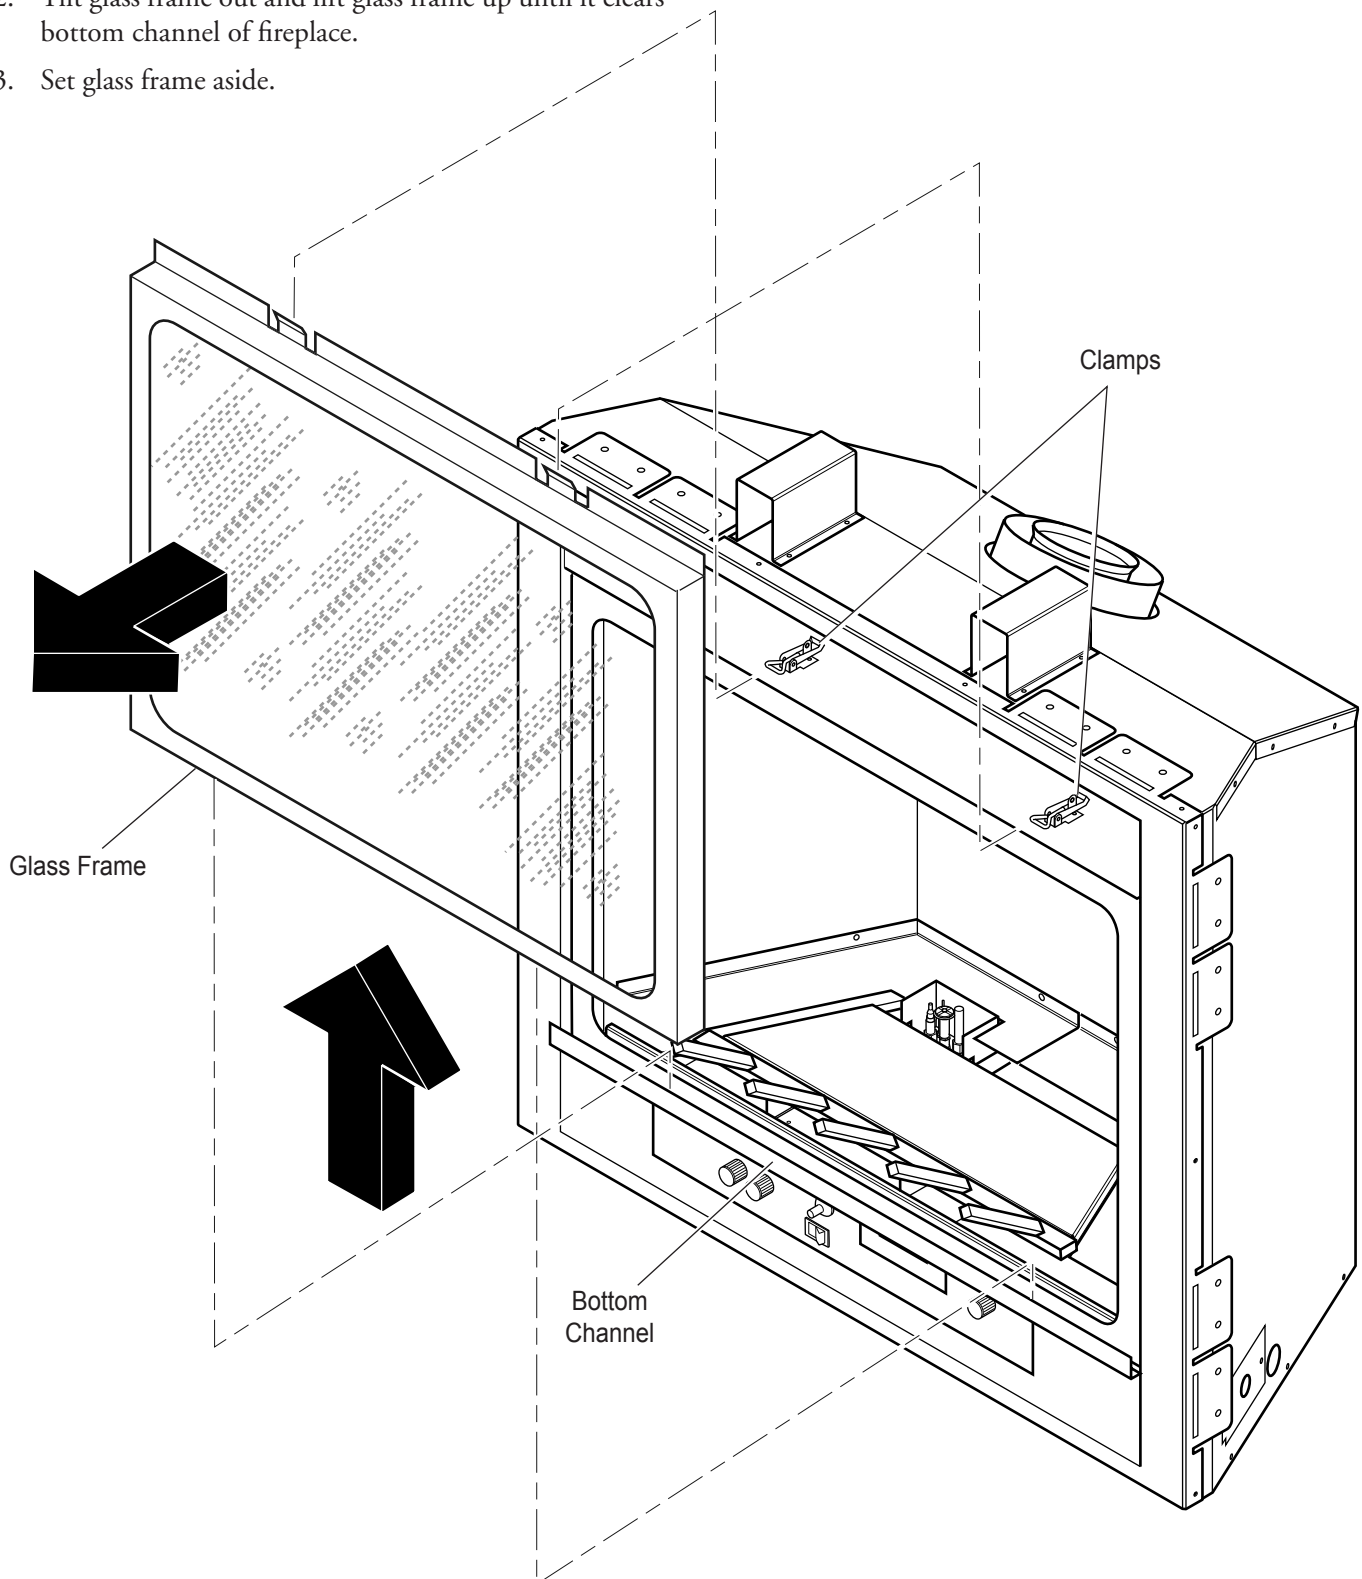

Figure 36 - Removing Glass Frame
1. Release two clamps on top of fireplace. See Figure 36.